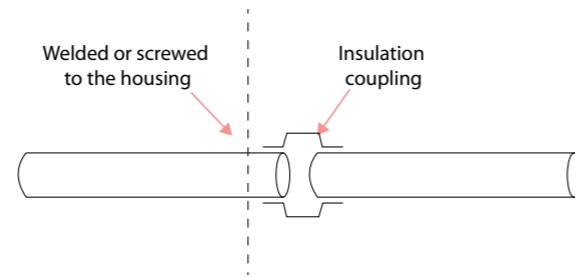

Figure 24.2 : Pipes of conductive material need insulating couplings.
- Level III H 64 69 Pipes for fluids, air, heating (Fig. 24.2)